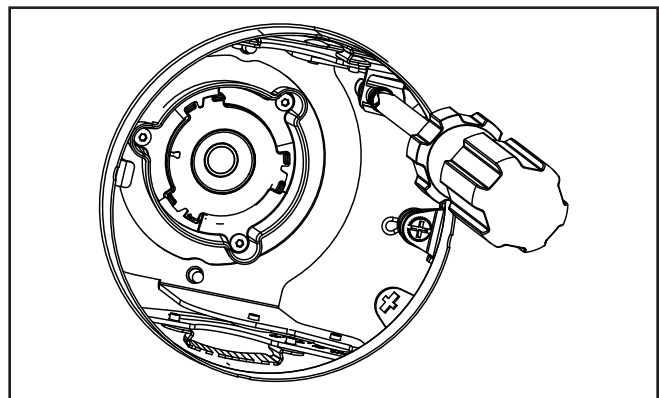

Figure 7c
3. Tilt the mechanism by turning the tilting screw in the clockwise direction (Figure 7c). Reference the angle dial on the mechanism assembly for determining tilt angle.